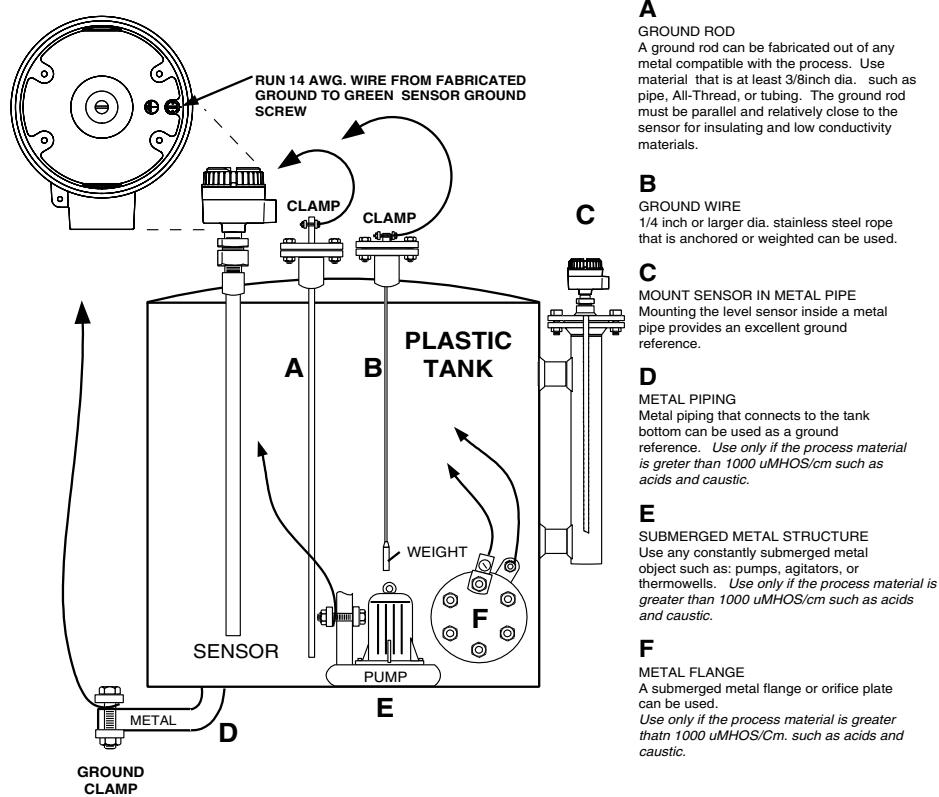

Figure 2-6
- G. For non-metallic vessels without Drexelbrook self-grounding sensing elements, choose one of the grounding recommendations shown in ***Figure 2-6***.